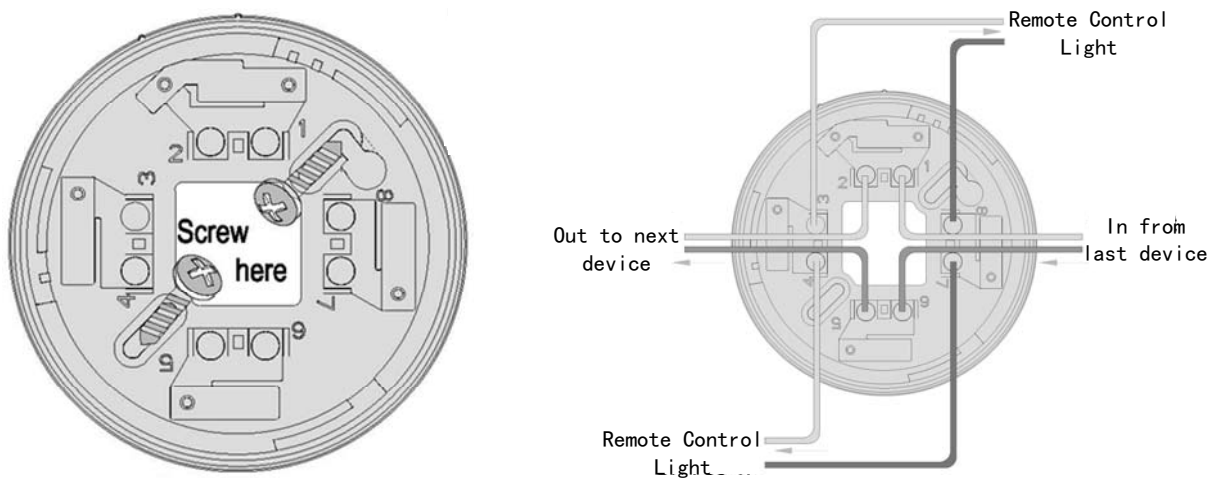

Fig.1 TX7980 base structure and the terminals connection diagram
1. Install the TX7980-type base in the position where the Addressable Sounder Base will be installed. Following the arrow mark for the correct position. Do not over-tighten the screws otherwise the base will twist. Use M4 standard screws. Terminals 1 and 6 are the bus signal inputs for connection to the last device. Terminals 2 and 5 are the bus signal outputs for connection to the next device. Terminals 3&8 or 4&7 are used to connect remote indicators. TX7980-type base structure and the terminals connection diagram as shown in Figure 1.